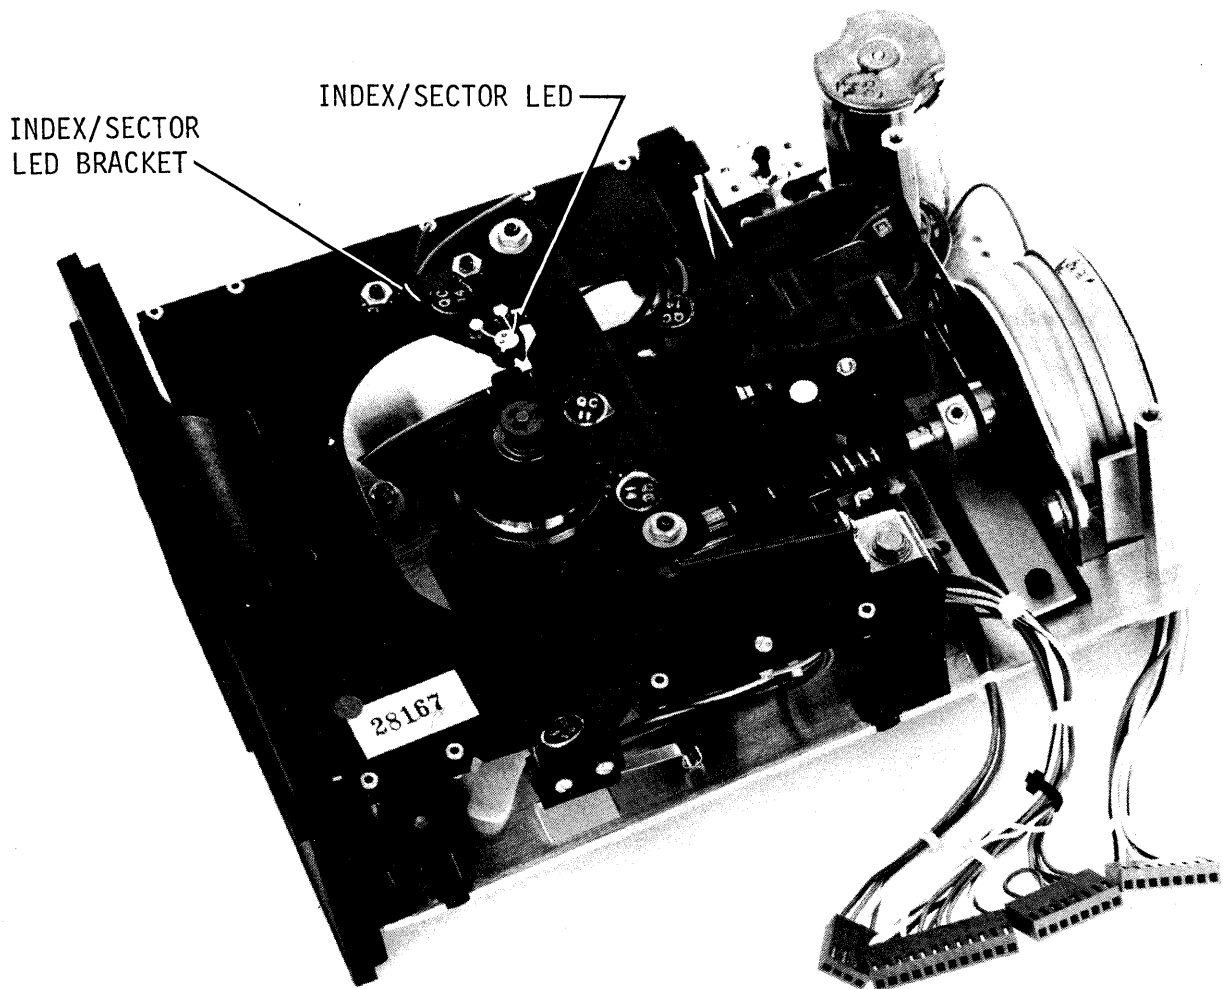

Figure 6-11. Index/Sector LED Assembly Details
- a. Remove the two LED Assembly retaining nuts and washers (see figure 6-11).